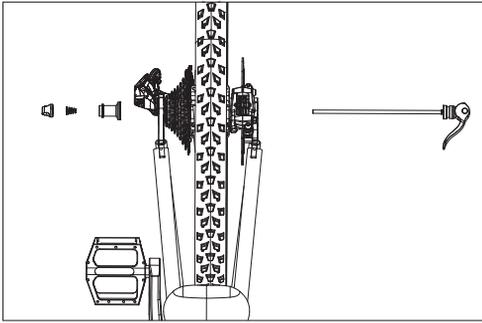

Fig. 39: Installing RackStand quick release.
1. Remove the original rear wheel quick release by unscrewing the end nut. Replace with the RackStand traditional quick release (Fig. 39) and tighten to proper tension (page 44).